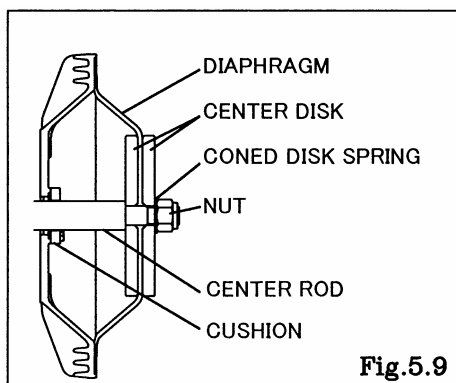

Fig.5.9
- Insert the cushion (except with the NDP-80). (cf. Fig.5.9)
- Draw the center disk to one side (exclude B□H, B□S, B□H/T type cf. Fig.5.9). and install the out chamber. tighten the bolts temporarily.